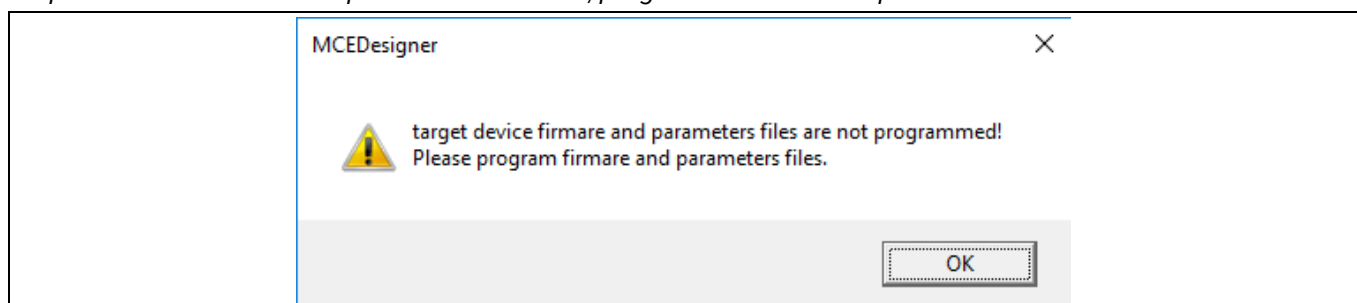

Figure 7 MCEDesigner warning message
8. *In case of blank IC: If the firmware has been erased from the IMC101T, a warning message will pop up saying “Target device firmware and parameters files are not programmed! (Figure 7) Please program firmware and parameters file.” See step 9 on how to obtain/program firmware and parameters.*